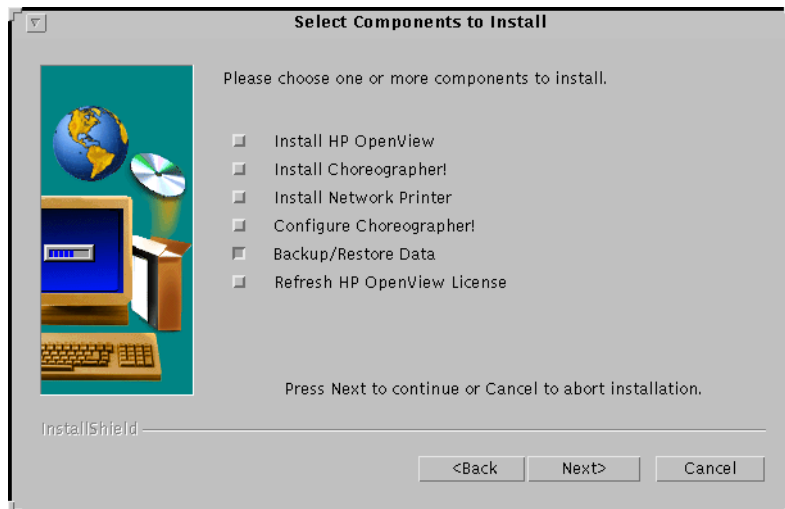

Figure B-2: Select Components to Install
4. Select the **Next** button to continue. The **Select Components to Install** menu appears (see Figure B-2).